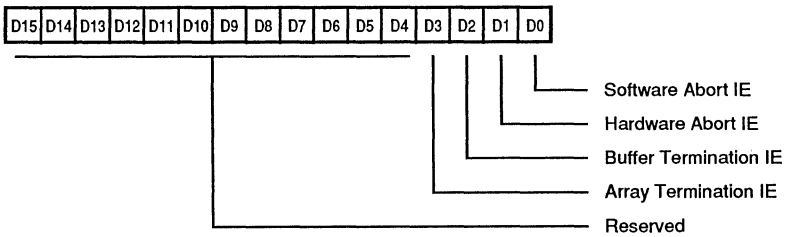

Figure 19. Tx/Rx DMA Interrupt Arm (TDIAR)/(RDIAR)
\* The format of this register is the same for the receiver and transmitter. The transmit register is accessed by addressing it with the D//C pin Low (0). The receive register is accessed by addressing it with the D//C pin High (1). This applies to Figures 19 through 25.